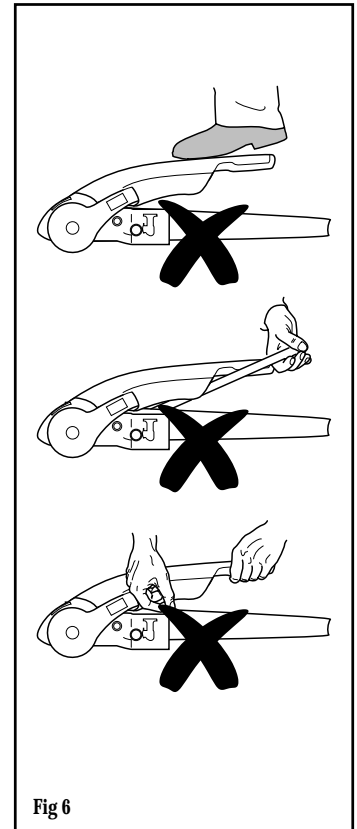

Fig 6
- ✎ Tighten the locking bolt socket using the wheel spanner provided. (fig 6).
down by hand force only DO NOT use your foot or an extension bar, this will damage the components (Fig. 6).
- 3) When opening or closing the stabiliser lever, please ensure your hand does not touch the coupling handle - you may accidentally trap your fingers! (Fig. 6).